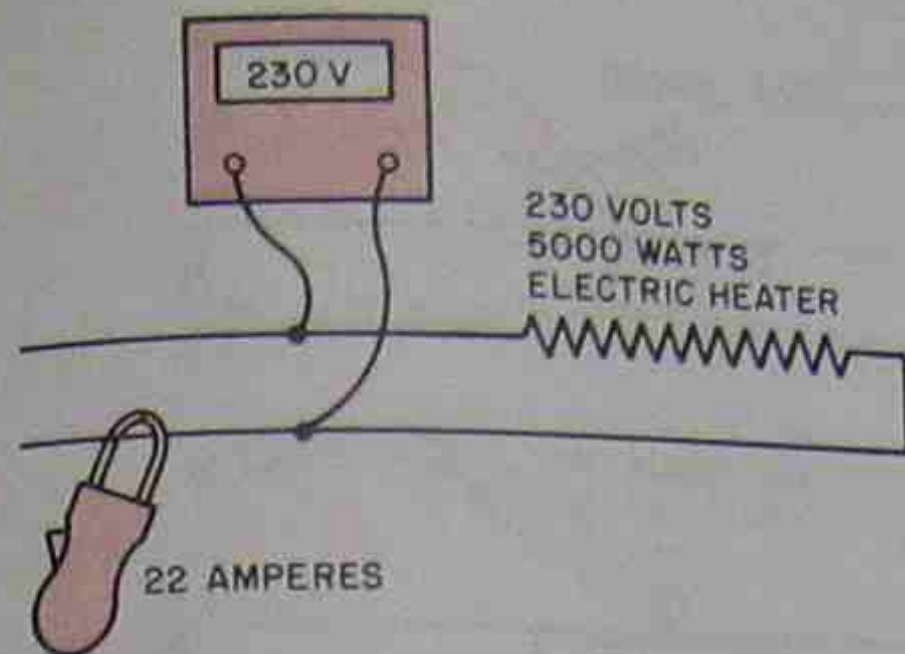

Figure 9-26. Using an electric heater to check the calibration of an ammeter.
**Remember to read the voltage at the same time as the amperage.** You will notice small errors because the resistance of the electric heaters will change when they get hot. The resistance will be greater, and the exact ampere reading will not compare precisely to the calculated one. But the purpose is to check the ammeter, and if it is off by more than 10% send it to the repair shop, Figure 9-26.